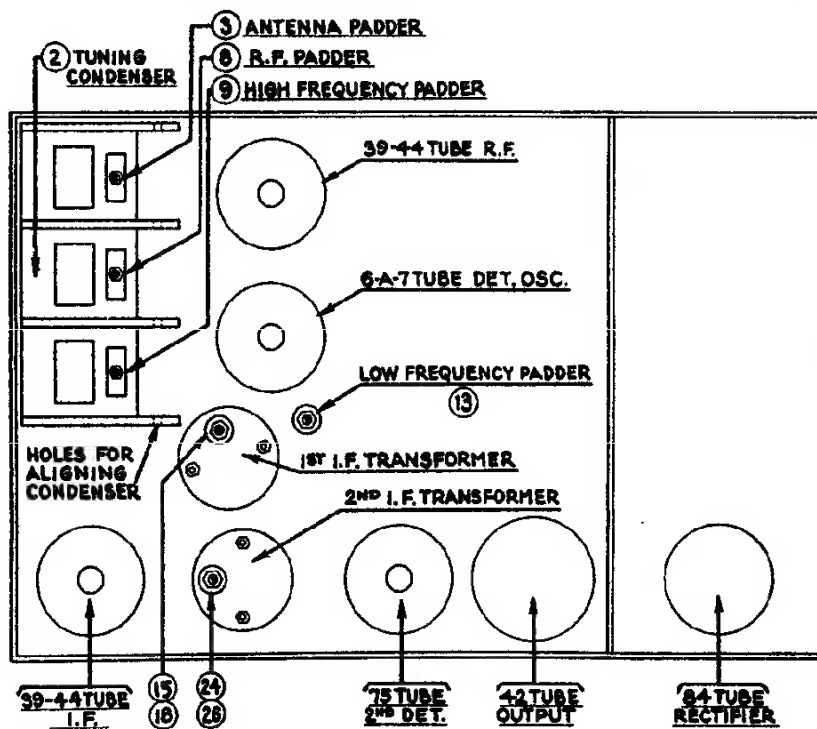

Fig. 43. Model 10 — I.F. 260 K.C.
Remove the speaker lid from the Receiver and disconnect the antenna lead from the Receiver. Remove the grid cap from the 6A7 tube (for location see Fig. 43).
Set up the signal generator and adjust it to exact 260 K. C. Connect signal generator lead to the grid cap of the 6A7 tube. (See Fig. 43). The output meter must be connected by means of an adapter to the spring of the speaker prong and to the chassis.
The condensers 24 and 28 are adjusted first (Fig. 43). Turn the adjusting screws all the way in. A metal screw driver can be used for this. Then, with the signal generator attenuator set so there
H. F. There are four holes in line, one in each of the sections of the tuning condenser housing. (See Fig 43) Place a nail of the size that fits snugly through the holes and then turn the condenser plates out of mesh until they strike against the nail.